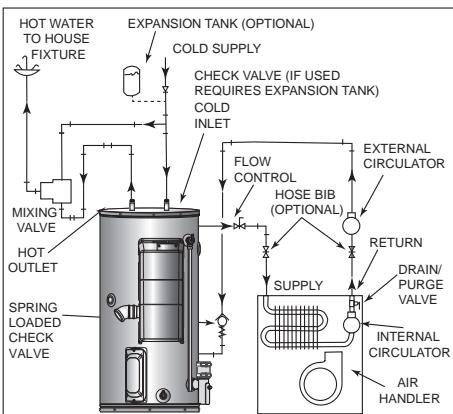
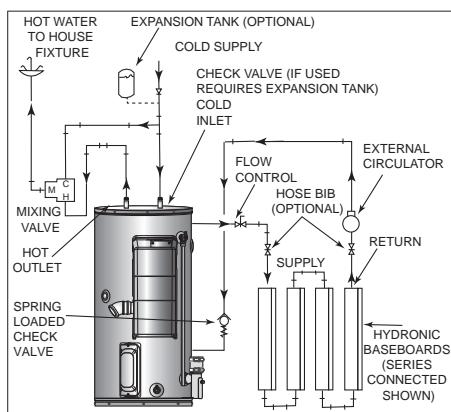

Figure 50. Typical Combo Heating Configuration
Figure 51. Typical Combo Heating with Hydronic Baseboards
9. "Combo" Heating Systems require higher water temperatures than other applications. When the system is used to supply water for Combo Heating applications, a means, such as Thermostatic Mixing Valves at each point-of-use, must be installed to temper the water in order to reduce scald hazard potential. See *Figure 50* and *Figure 51*.
- A. A fan coil/air handler. See *Figure 50* (page 39).
- B. A hydronic baseboard (finned tube) loop/In floor heating. See *Figure 50* (page 39).